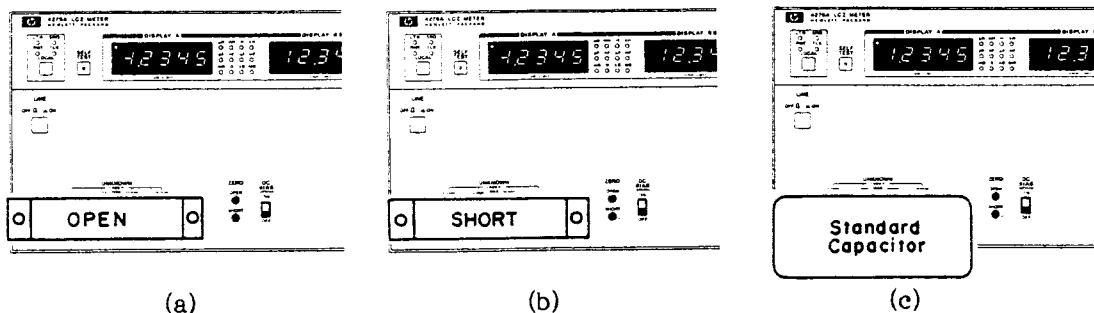

Figure 4-6. Inductance Accuracy Test Setup.
- 3. Connect the 1000pF standard capacitor directly to the UNKNOWN terminals. See Figure 4-6 (c).